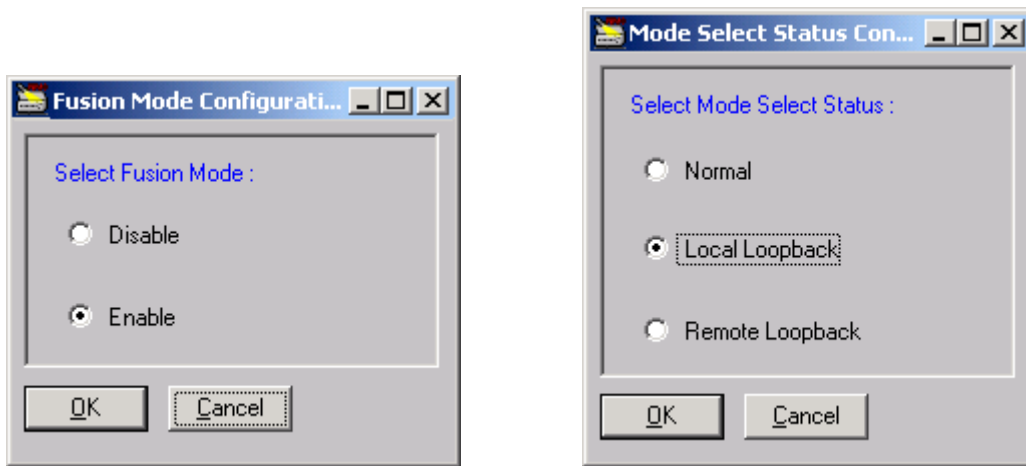

Figure 14: Fusion Mode Configuration and Mode Select Status Con ... Windows
2. If **Config** is dimmed, i.e., it is disabled, click on **Config** in the same row as **Fusion Mode**. The window **Fusion Mode Configuration** (*Figure 14*, page 27) opens. Set ☒ **Disable** and click **OK**.
3. Click on **Config** in the same row as **Mode Select Status**. The window **Mode Select Status Con...** (*Figure 14*, page 27) opens.
2. If **Config** is dimmed, i.e., it is disabled, click on **Config** in the same row as **Fusion Status**. The window **Fusion Mode Configuration** (Figure 14, page 27) opens. Set **Disable** and click **OK**.
3. Click on **Config** in the same row as **Mode Select Status**. The window **Mode Select Status Con...** (Figure 14, page 27) opens.
2. If  is dimmed, i.e., it is disabled, click on  in the same row as . The window **Fusion Mode Configuration** (*Figure 14*, page 27) opens. Set  **Enable** and click .